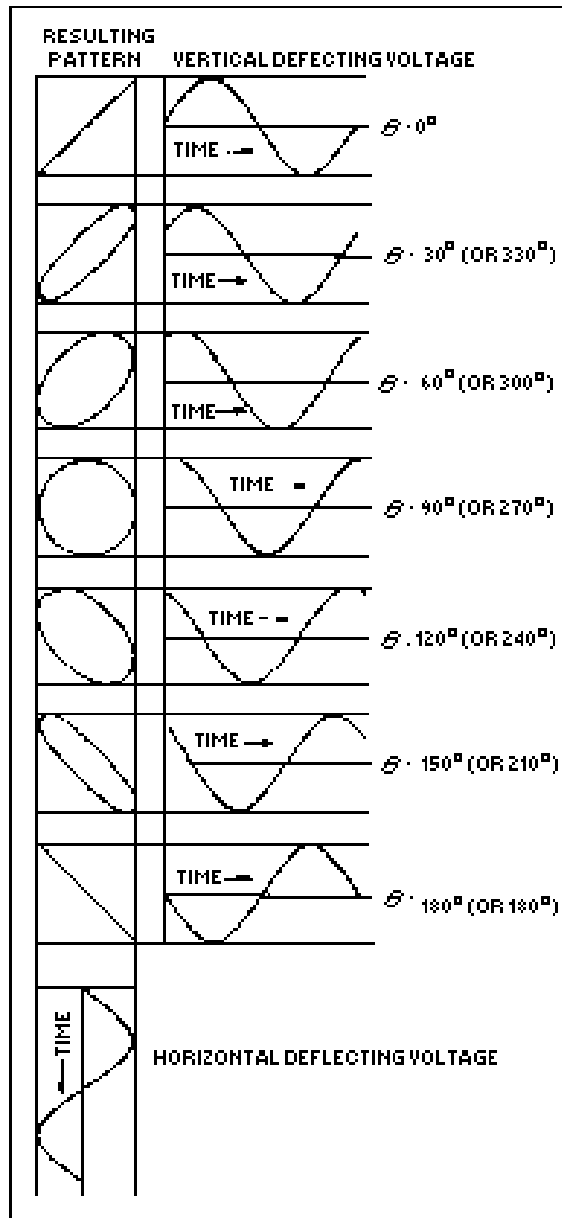

Figure 1-37.—Lissajous patterns, showing the effects of phase relationships.
**LISSAJOUS PATTERNS.**—The simplest lissajous patterns are produced by two sine waves of the same frequency and amplitude being applied to the horizontal and vertical deflection voltage inputs of an oscilloscope. Figure 1-37 shows patterns for several common phase relationships. These can be used to estimate the approximate phase angle of the two signals being studied.